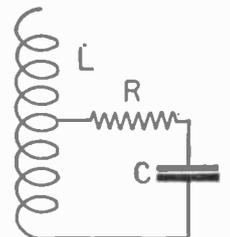

FIG. 5
I then built a coil with condenser shunted across a portion of its turns, and with one ohm resistance in series with the condenser connection, consisting of some No. 30 German silver resistance wire wound in non-inductive fashion. This is shown in Fig. 5. I again excited this combination at 150 meters as its fundamental. The end turn of the coil was at high voltage but the discharge was not as in the coil of pure inductance; also the resistance got warm. Then I excited the system at the second harmonic or 75 meters with the same result. Then came the surprise.
Fig. 5 shows another form of relay of simple construction instead of light microphonic contact, a transmitter button (M) is placed against the vibrating armature (R). The step-up transformer is used in conjunction with this relay so that a high resistance radio loud speaker may be used. The battery (B) supplies the microphone current that passes through the transformer